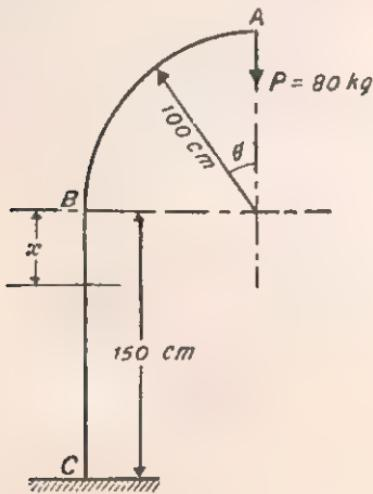

Fig. 40
20. A steel bar 6 cm diameter is bent to the shape shown in Fig. 40 and the lower end is firmly fixed in the ground in a vertical position. A load of 80 kg is applied at the free end. Calculate the vertical deflection of the free end. $E = 2 \times 10^6 \text{ kg/cm}^2$. (Lond. Univ.)